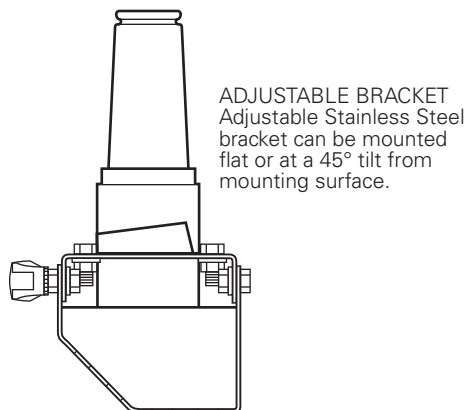

Figure 3. Adjustable bracket
- Stainless Steel Adjustable Mounting Bracket and Assembly hardware. See Figure 3.